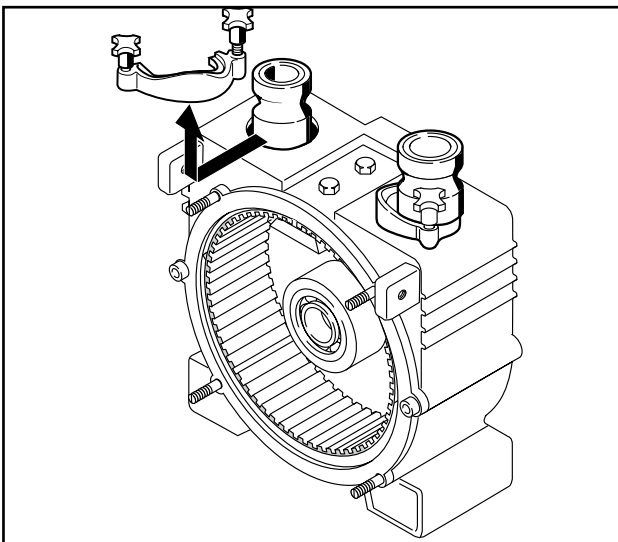

Fig. 11 Disassembly of holding claws
7. Loosen and remove both holding clamps and pumping hose (Fig. 11).